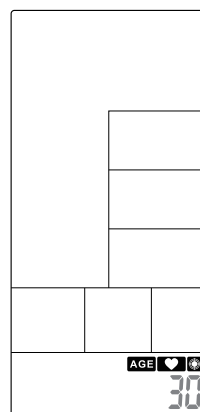

Figure 45
- ① In Standby mode, press Target Heart-Rate key and **AGE** will light up, along with along sound for 1s.
- ② AGE value is flashing, press UP and DOWN to preset your Age (Figure 45). Press ENTER to confirm along with buzzer beeps 1s and **HEART RATE** lastly lighting up.